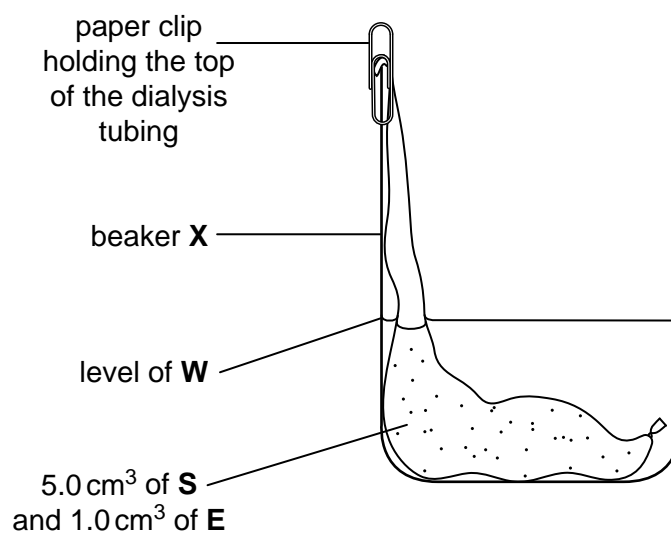

Fig. 1.1
Fig. 1.1 shows the apparatus you will set up for this investigation.
Look carefully at Fig. 1.1. This has been set up so that the volume of water covering the dialysis tubing is as small as possible. The part of the dialysis tubing containing the mixture is on the bottom of the beaker.
- step 6 Put the dialysis tubing into the beaker labelled **X**. Use a paper clip to hold the dialysis tubing in place, as shown in Fig. 1.1.
- step 7 In this step, you will use a syringe to measure the volume of distilled water, **W**, needed to fill beaker **X** up to the level shown in Fig. 1.1.
Use a syringe to put **W** into beaker **X** up to the level shown in Fig. 1.1. Record in **(a)(i)** the volume of **W** added.